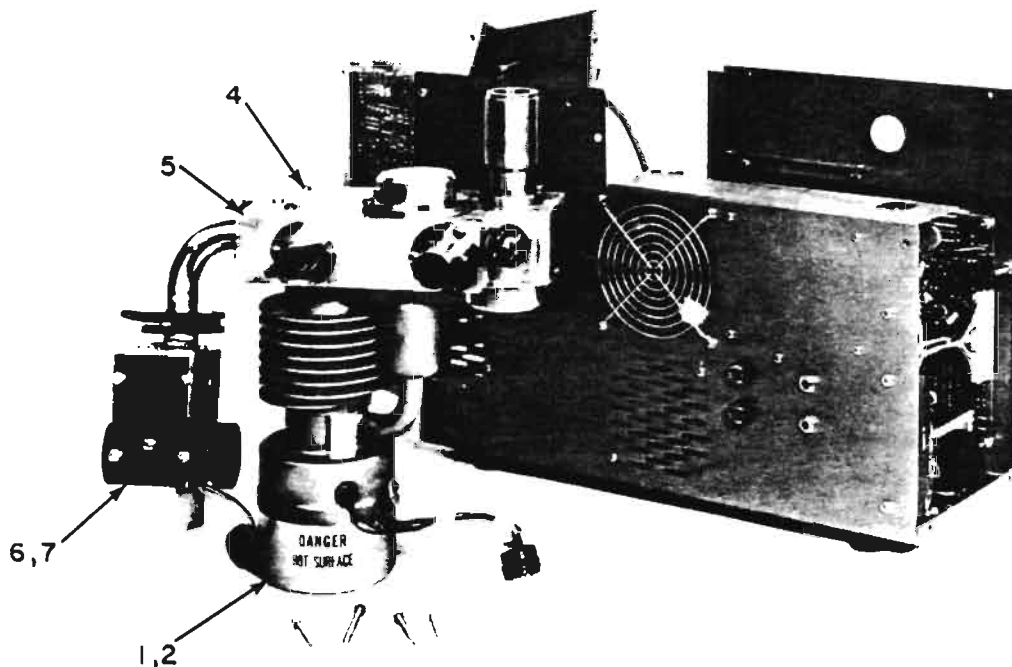

Fig. 8-5. Diffusion Pump Removed
**DIFFUSION PUMP REMOVED (Fig. 8-5)**